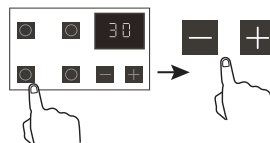

Fig.17
6. To adjust the time during burner use, touch the corresponding burner button then adjust the time using the “+ or -” buttons. (Fig. 17)